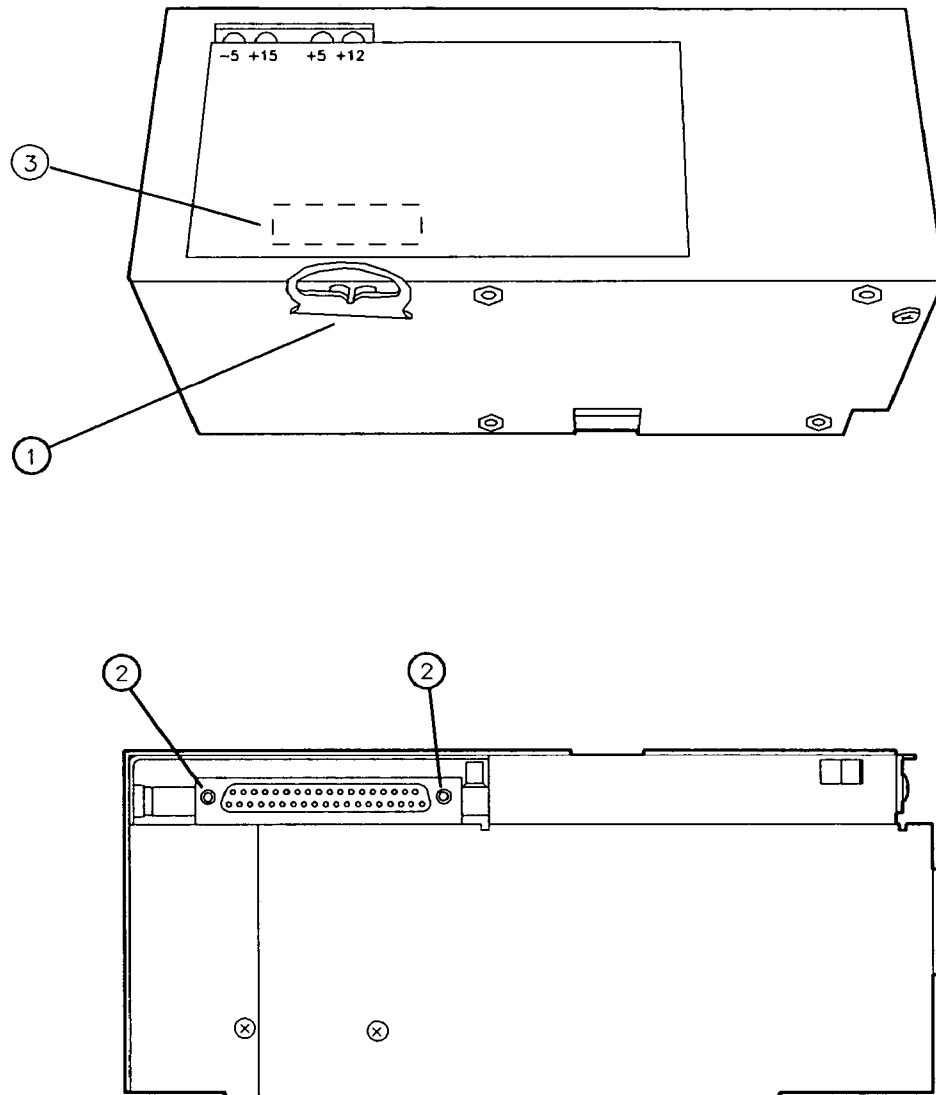

Figure 3-6. A8 Power Supply Replacement
4. Grasp the power supply pull-tab (1), pull straight up, and remove the A8 assembly from the instrument chassis. See Figure 3-6.